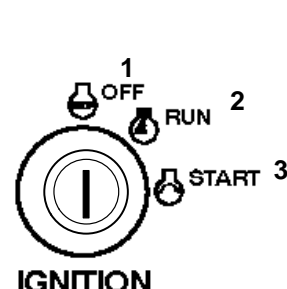

Figure 6
2. Turn the ignition key to “OFF” (Fig. 6).